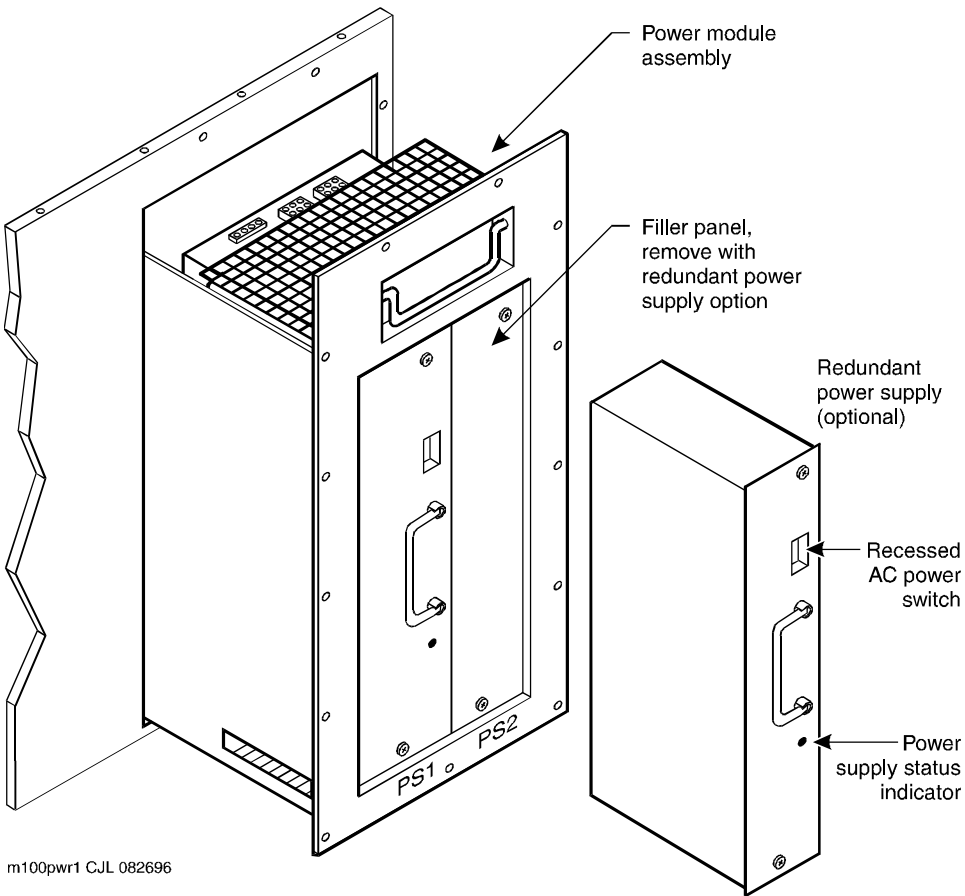

Figure 7-17. Power Module Assembly with Redundant Power Supply Capability
MAP/100s equipped with a single power supply, installed by the Lucent factory, will have the power supply located in position PS1 (Figure 7-17). A filler panel will be located in position PS2 (Figure 7-17).
4. Place the power switch on the power supply in the off position (Figure 7-17).
6. Loosen the two 1/4-turn fasteners that hold the power supply to the power module assembly (Figure 7-17).
2. Loosen the two 1/4-turn fasteners that hold the filler panel to the power supply module assembly (Figure 7-17).
3. Place the power switch on the defective power supply in the off position (Figure 7-17).
5. Loosen the two 1/4-turn fasteners that hold the power supply to the power module assembly (Figure 7-17).